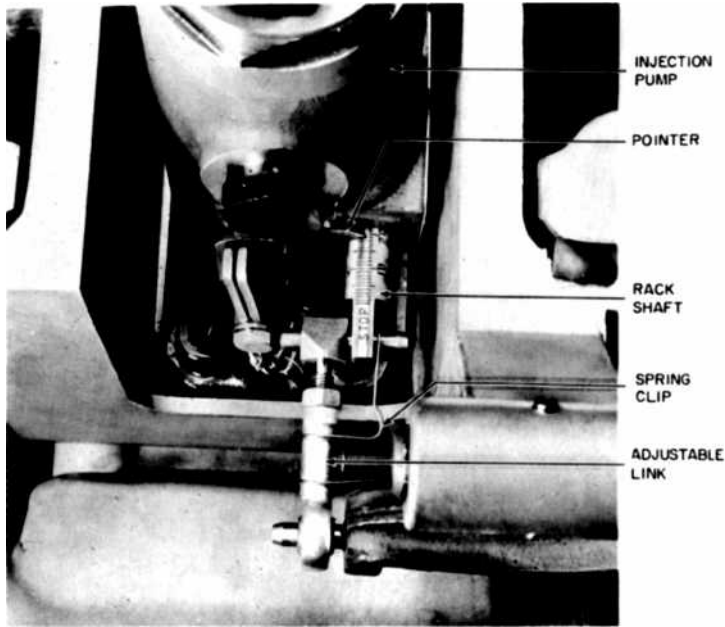

Fig. 9-6. Fuel-pump-rack shaft and linkage
2. If the travel of any pump rack is not properly set at the FULL LOAD piston gap, adjust the individual rack link at the pump rack to obtain the correct setting. (See Fig. 9-6.) To make the adjustment, loosen the locknut and release the spring clip. Disengage the link and turn the threaded portion in or out to lengthen or shorten it.